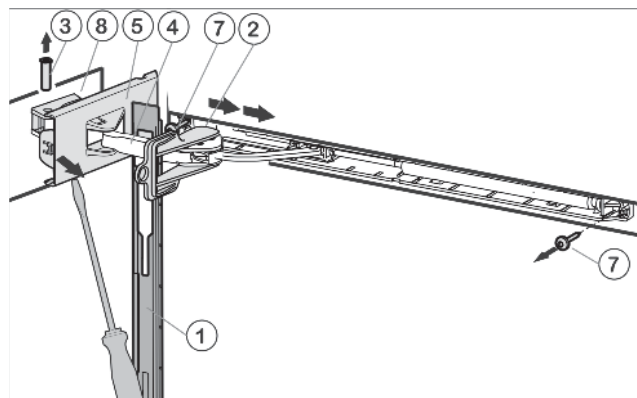

Fig. 6
- ▶ Push panel forward over the damper bracket Fig. 6 (4) in the direction of the appliance.
- ▶ Engage locking device Fig. 6 (2) into place inside oblong hole.
- ▶ Unscrew cover Fig. 6 (5) that is on the hinge side until the first notch using a screwdriver.
- ▶ Push bolt Fig. 6 (3) out from below.
- ▶ Press damper bracket Fig. 6 (4) in the direction of the door.
- ▶ Completely loosen cover Fig. 6 (5) that is on the hinge side and remove.
- ▶ Remove panel Fig. 6 (1).
- ▶ Unscrew soft stop unit (2 x Torx® 15) *Fig. 6 (7)*.
- ▶ Unscrew bearing part *Fig. 6 (8)*, turn it 180° and move it to the opposite side. Make preliminary holes (optional) or use a cordless screwdriver.